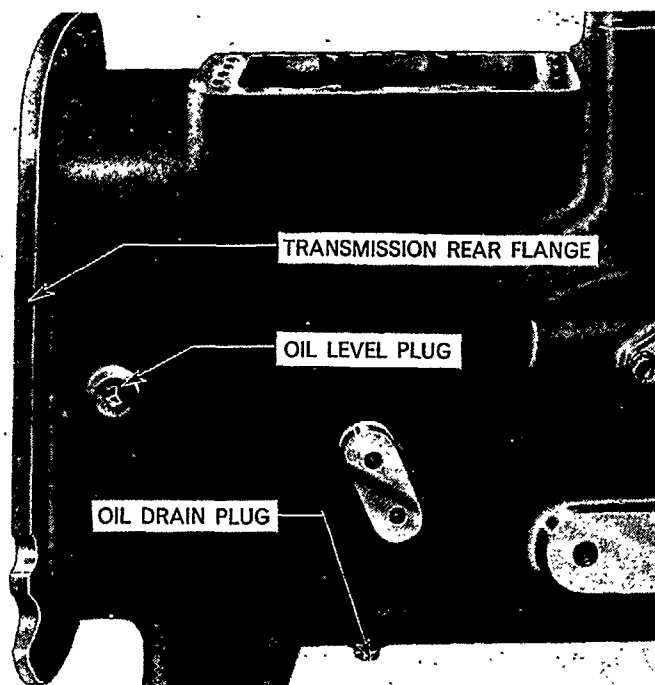

Figure 26
5. Install the transmission oil drain plug and remove the oil level plug, Figure 26. Fill the transmission with oil of the specified grade (see Specifications, Chapter 3), up to the level plug hole. Install and tighten the level plug.